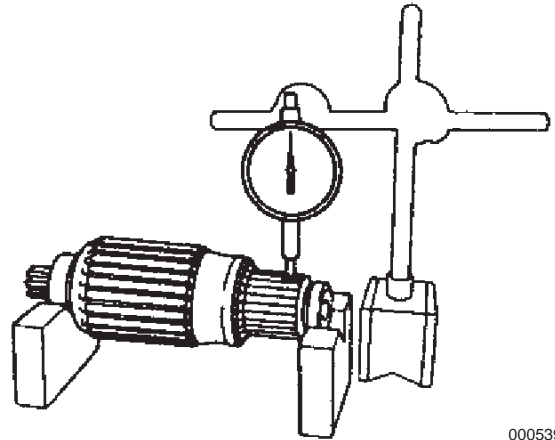

Figure 10-12
4. Inspect the commutator for radial runout by mounting the commutator on a V-block to measure runout using a dial indicator (**Figure 10-12**).